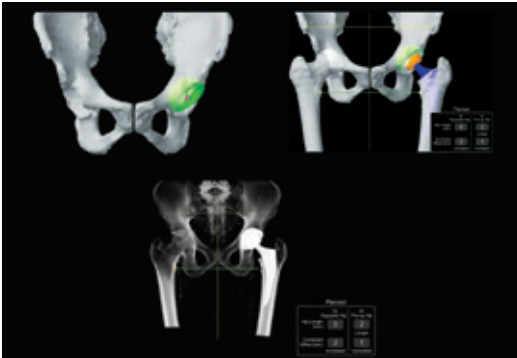

Figure 1
1. Use case planning tools from the software application to confirm acetabular shell and femoral stem placement for desired leg length and offset (Figure 1).